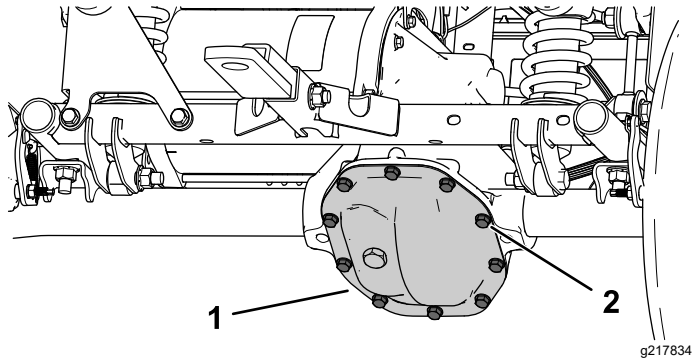

Figure 54
1. Align a drain pan under the transaxle cover (Figure 54).
2. Remove the bolts from the transaxle cover and drain the fluid completely (Figure 54).